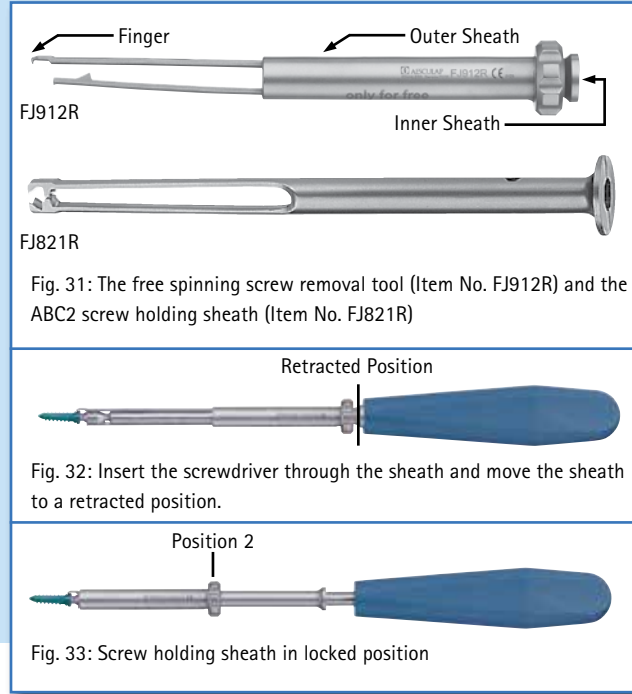

Fig. 31: The free spinning screw removal tool (Item No. FJ912R) and the ABC2 screw holding sheath (Item No. FJ821R)
If a screw is stripped and spinning within the bone, a special free spinning screw removal tool (Fig. 31) is available.
**Caution:** Special attention should be made to the difference in design between the free spinning screw removal tool and the ABC2 screw holding sheath (Fig. 31). The free spinning screw removal tool should only be used with the ABC2 screwdriver (FJ910R) to remove free spinning screws.